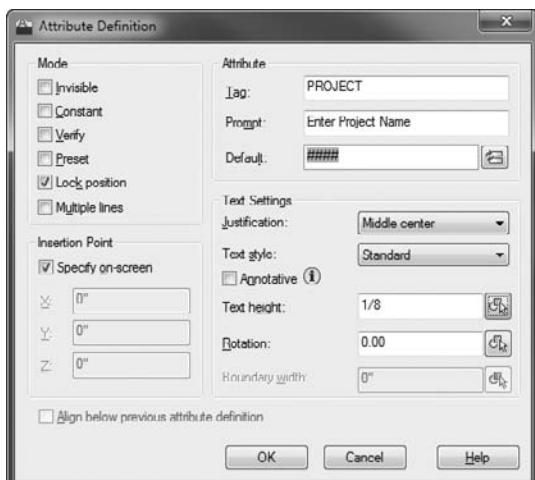

FIGURE 14.11 The Attribute Definition with a field set as the Default value
Back in Attribute Definition dialog box, the Default field now contains ##### and has a gray background, as shown in Figure 14.11.
7. Under the Text Settings group, set the Justification to Middle Center, Text Style to Standard, and enter an arbitrary text height such as 1/8" (3 mm). With your settings matching those illustrated in Figure 14.11, click OK.